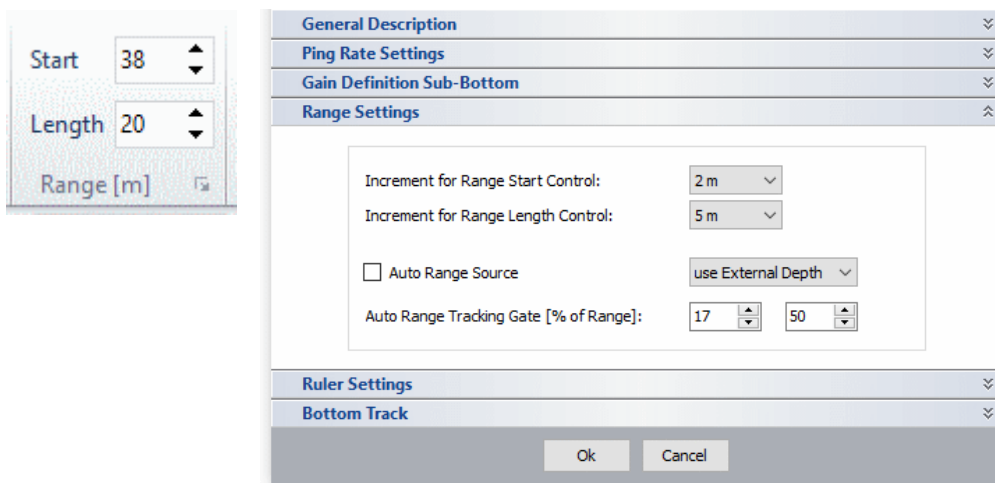

Figure 9: Setup menu, Range settings
- Range Settings:** Here you can choose whether to use the external depth information for the automatic detection and tracking of the bottom by clicking on the Auto Range Source (Figure 9). If you do not want to use automatic tracking (for instance on steep slopes) depth window can be adjusted by using the Start and Length panels in the home window menu bar. The example shows a window start at 38m depth and a window length of 20m. Increments for the Range Start Control and Range Length Control can be adjusted in the range settings.